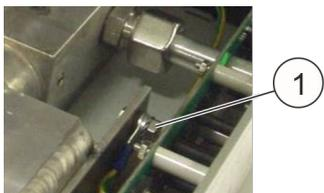

Fig. 51: Earthing screw
7. ▶ Remove the earthing screw (Fig. 51/1) from the tank.